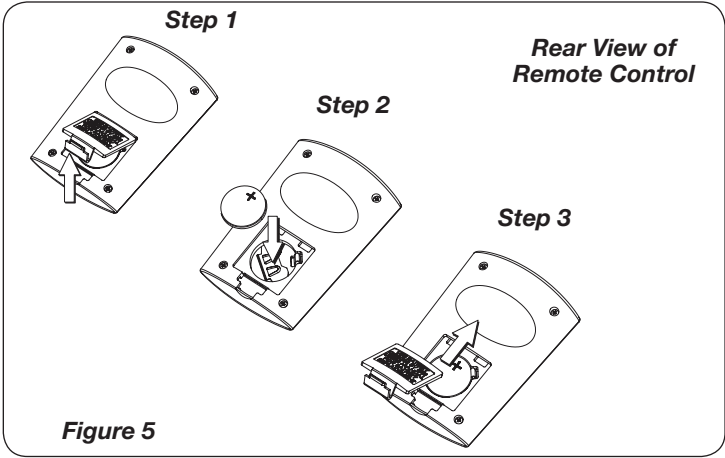

Figure 5
1. Install the battery supplied as shown in *Figure 5*. The (+) side must be toward the cover.